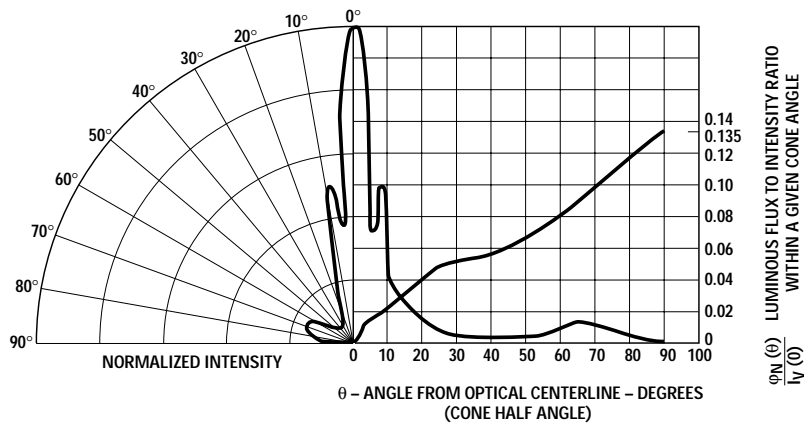

Figure 7. Relative luminous intensity vs. angular displacement.
3. The approximate total luminous flux output within a cone angle of 2θ about the optical axis, $\phi_V(2\theta)$, may be obtained from the following formula: $\phi_V(2\theta) = [\phi_V(\theta)/I_V(0)]I_V$; Where: $\phi_V(\theta)/I_V(0)$ is obtained from Figure 7.